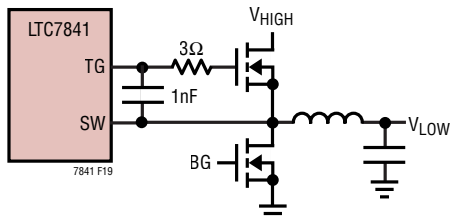

Figure 19. Filter for TG Traces > 25mm
2. The TG traces from the controller IC to the gate of the external MOSFET should be kept as short as possible to minimize the parasitic inductance. This inductance can cause voltage spikes that can potentially exceed the ABS Max rating of the drivers and damage them. A 3Ω resistor and 1nF capacitor can be used to filter these spikes as shown in Figure 19. If the TG traces are longer than 25mm, this filter network must be used on both TG1 and TG2. The 1nF capacitor should be placed as close to the TG/SW pins as possible.